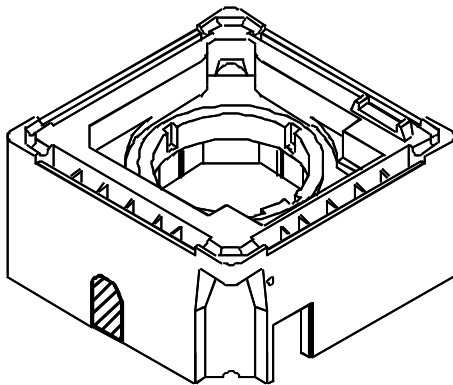

Fig.2.
1. Using a small saw blade, carefully cut around the 'U' shaped depression in the side wall of the chassis (area shaded in Fig. 2). Remove any loose beads of material from the edges